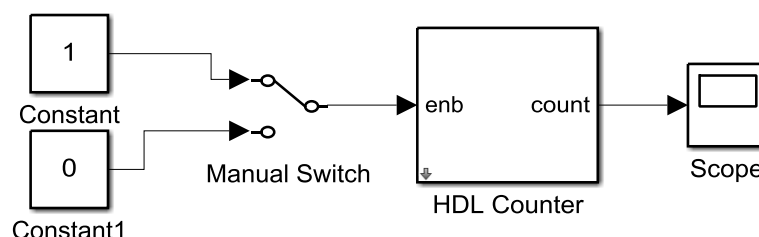

Figure 1 Simulink model to analyze counter behavior
- 12) Save the Simulink model (shown in Figure 1) as “counter_simple”